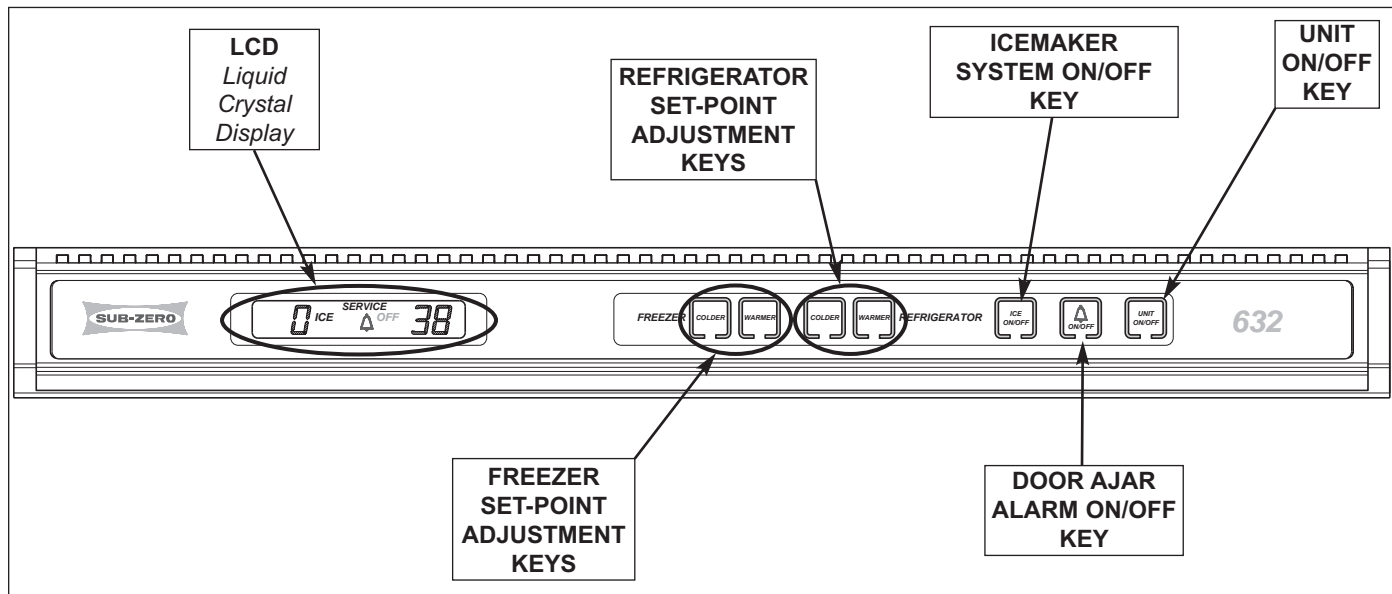

Figure 3-4. 600-2 Series Control Panel Layout (Model 632-2 Control Panel Shown)
- The illustration below is of a 632-2 control panel (See Figure 3-4).